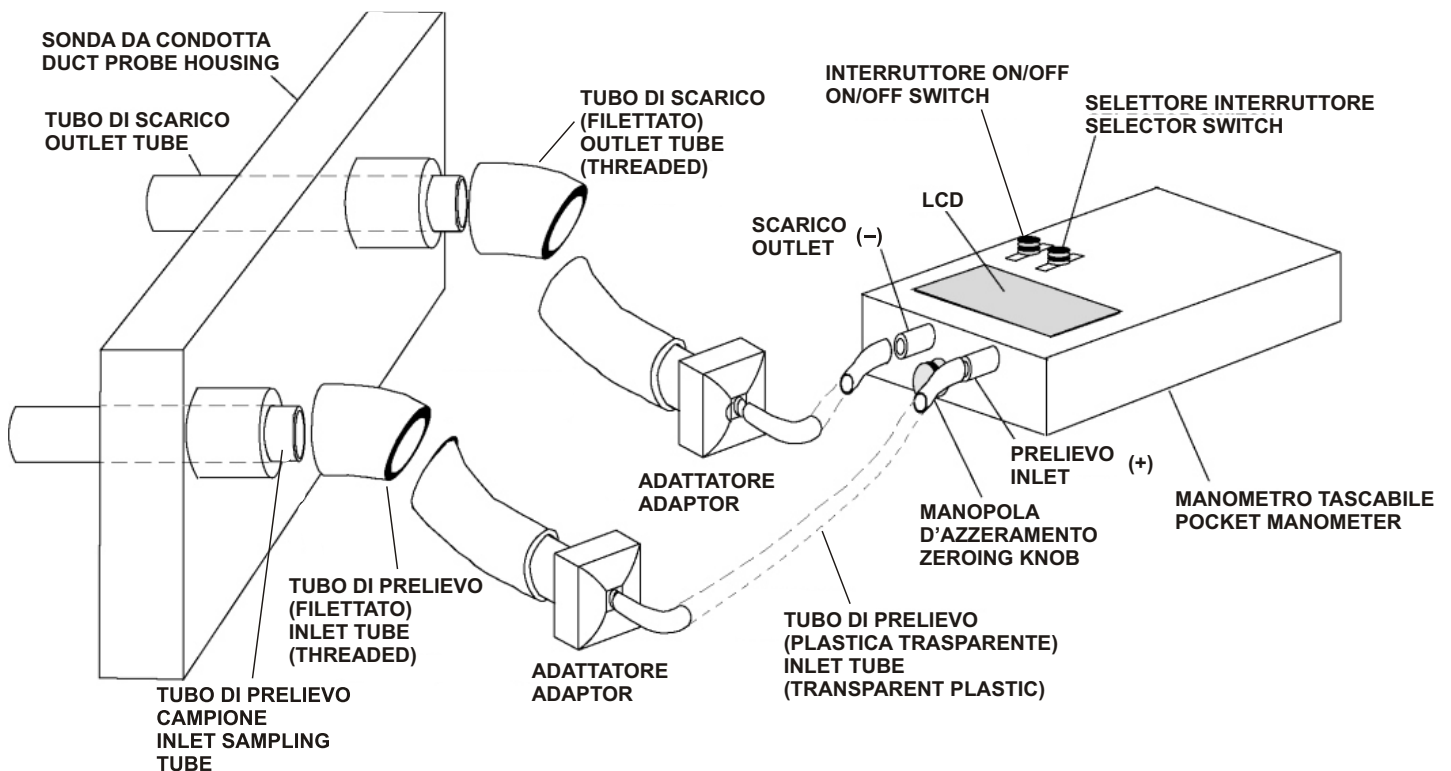

FIG. 4 Duct Probe Testing Arrangement
- 3) Assemble the test equipment - see Fig. 4 on the next page.